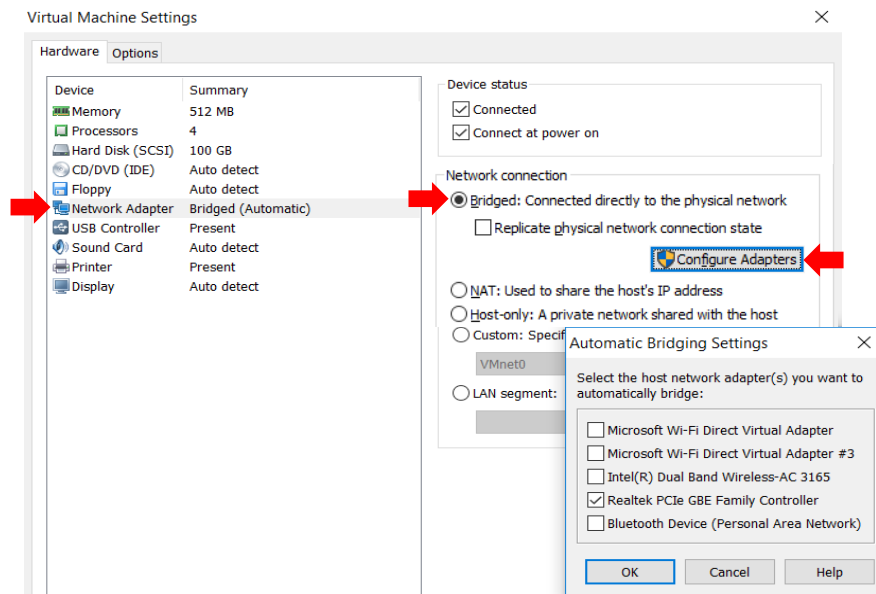

Figure 4: Disable Bridging
- The terminal window is shown in Figure 4 Immediately after entering the U-Boot console. The 3000-OEM uboot prompt is: SLA3000#